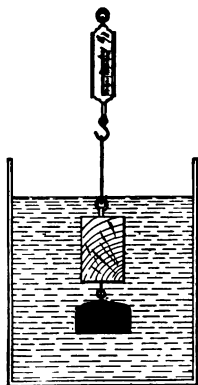

FIG. 63. — Specific gravity with sinker.
*3d Method.* If the object is lighter than water, and does not dissolve, select a sufficiently large sinker and suspend it below the object, as shown in figure 63. Then bring a jar of water up under the whole thing until the water level is between the sinker and the object, and weigh. Then raise the jar still farther until the water level is above the object, and weigh again. This weight will be less than the first because in this case the water buoys up the object, while in the first case it does not. The difference between the two weights is equal to the weight of the water displaced by the object.